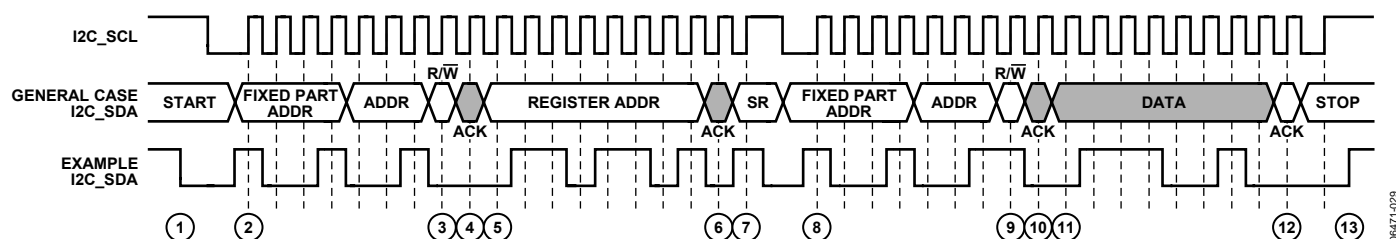

Figure 30. I²C Read Diagram
To read data from the AD8197 register set, an I²C master (such as a microcontroller) needs to send the appropriate control signals to the AD8197 slave device. The signals are controlled by the I²C master, unless otherwise specified. For a diagram of the procedure, see Figure 30. The steps for a read procedure are as follows:
9. Send the read indicator bit (1).
- 13a. Send a stop condition (while holding the I2C_SCL line high, pull the SDA line high) and release control of the bus to end the transaction (shown in Figure 30).